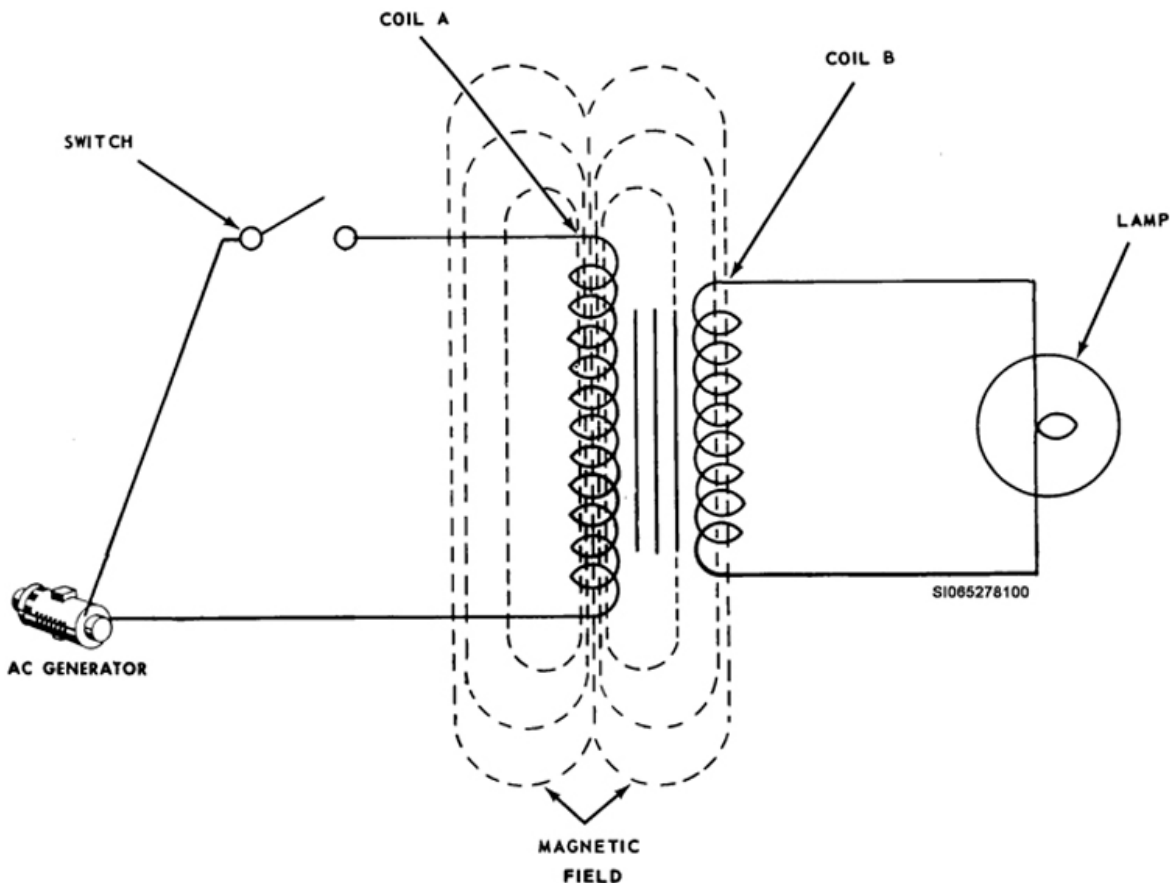

Figure 2-15. Transformer action.
Figure 2-15 illustrates how transformers work. The primary coil (A) must always be connected to the power source. The secondary coil (B) is always connected to the circuit requiring the changed voltage.